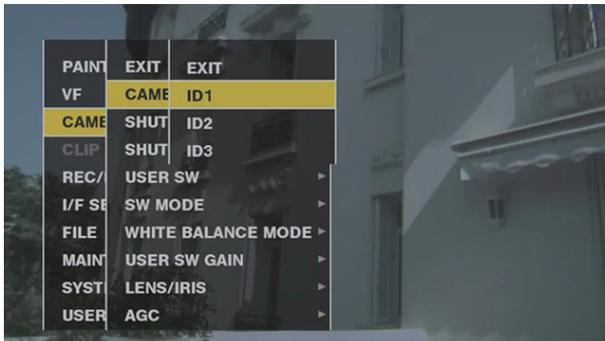

Fig. 1
- 1 Select [CAMERA ID] in the main menu → [CAMERA], and use the jog dial button (or cursor buttons  $\Delta/\nabla$ ) to navigate to the [ID1] to [ID3] items. (Fig. 1)